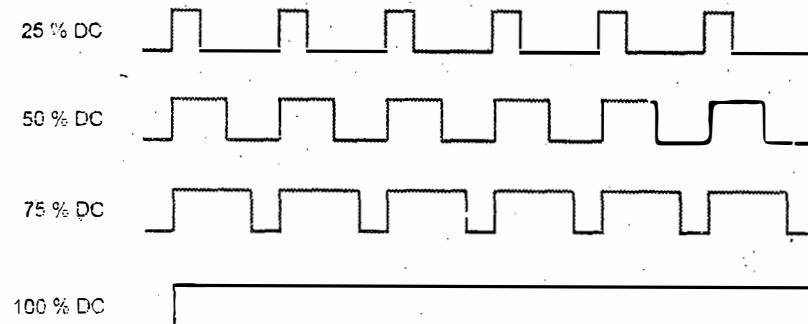

Fig Q.19.2 Duty cycle variations (Need to draw)
- To begin with the PWM mode the CCPx CON < 0:3> bits are set to 11XX and Pin RC2/CCP1 of PORTC is set high. The required duty cycle is obtained using CCPxCON<4:5> bits according to the waveforms shown in Fig. Q.19.2. (Refer Q.19.2 on next page)